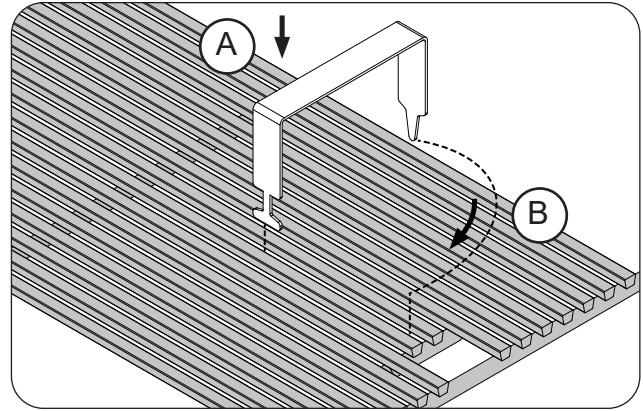
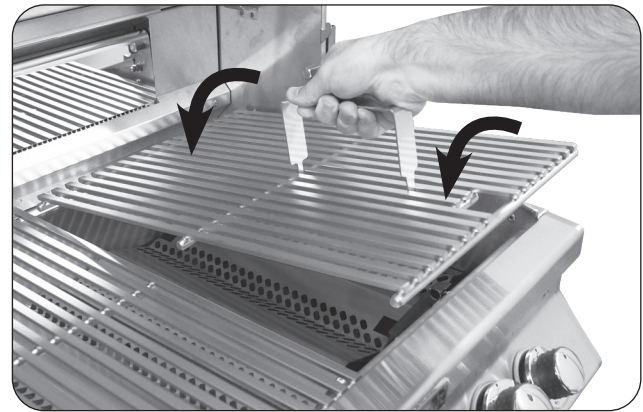

Fig. 20-1 Install cooking grids
Fig. 20-2 Install cooking grids
1. With the prongs facing downward, insert the notched-end of the lifter between two grid rods, then rotate, as shown in Fig. 20-1, A & B.
2. Insert the rear pointed-end of the lifter between the same two rods (Fig. 20-1, B) and carefully lift the cooking grid and place onto the front and rear grid rests of the grill (see Fig. 20-2). Repeat for all other cooking grids.